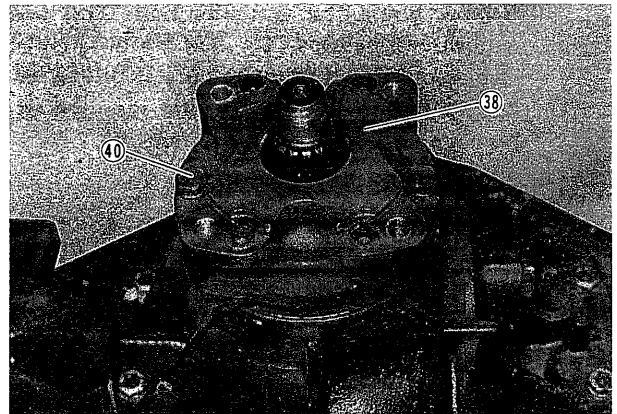

Fig. 62
- 3) Remove hex. socket head bolts and bolts (40). Remove cover (38). (Fig. 62)